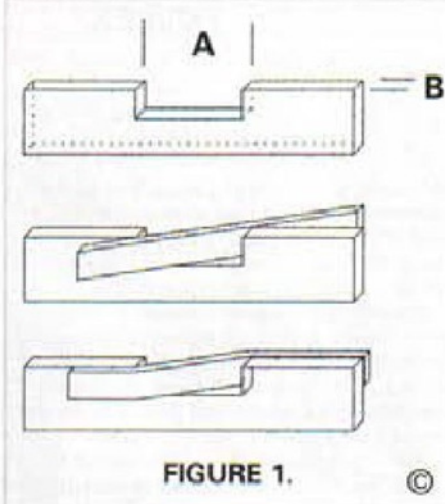

FIGURE 1.
13. The design of the arbor ejector (Item 20) requires that it be capable of properly functioning with Morse taper tooling with or without tangs. **Fig. 1** indicates the range of variation of dimensions, and the selected dimension of 13 $\frac{1}{2}$ mm plus a small safety margin in case an exceptionally short Morse taper crops up has been adopted. The overall length of the arbor ejector is such that it is totally enclosed in the modification when the barrel is fully retracted, in case it might make contact with the hand(s) when the feedwheel is in use. Yes, that black sphere which you might spot in one of the photographs is a 4mm dia. ball bearing. It was pickled in old battery fluid for about six hours in order to remove the highly polished finish and accommodate the bonding of the adhesive.
Figure 1 shows a simple arrangement for producing off-sets such as those required when making valve gear. It consists of a single block of metal, the thickness of which is the same as the off-set required (B). A slot is milled in it and this is to the length that is suitable for the work (A). It may also be desirable for the depth to be correct for the metal in use, but this is not essential as, if it is made deeper, packing can always be used and the tool may well be used for several different jobs. The metal to be bent is simply laid across the gap as shown and the vice tightened on it. It is a good idea to use two pieces of angle iron unless smooth jaws are available; don't try it with soft jaws or they will be completely ruined. There are two things to watch for, the first being that some mild steel and indeed some hard brass will not bend, but will snap. In the case of brass, it can be softened by heating to a dullish red colour and quenching in water. With steel, the metal should be taken to the colour of a boiled carrot and allowed to cool as slowly as possible. Even so, some steels will not bend to a sharp angle without snapping, so if possible, get a free machining steel in the first place as generally these will bend. Frequently there is no need for such a sharp off-set and the opposite angles of the slot (those which the metal will rest against) can be filed to an angle and, if possible, rounded off as well. It will of course all depend on the job in hand. Even if the bend is to be square, the edges of the cut-out should be slightly rounded so that there is less tendency to shear the metal. An allowance must be made for each bend and as a rough guide, this should be half the thickness of the metal. This figure is not technically correct, but is easy to work to, and for most purposes is good enough. It is advisable to mark off and drill any holes that are required after bending, as this is far from being an exact science unless quite sophisticated equipment is used.